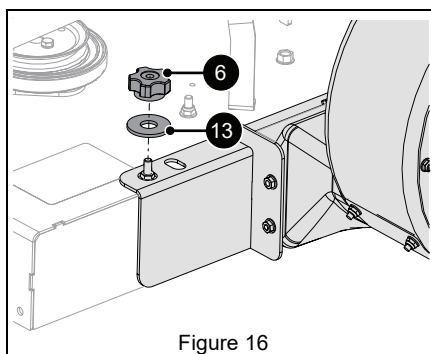

Figure 16
2. Secure the blower assembly to the deck with one 11/16" x 1 3/4" flat washer (item 13) and one clamping knob (item 6). See Figure 16.